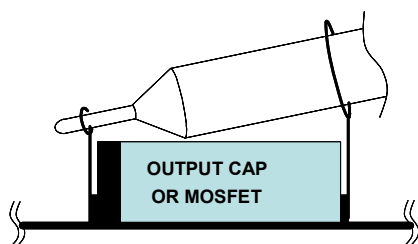

FIGURE 3. PROPER PROBE SET-UP TO MEASURE OUTPUT RIPPLE AND PHASE NODE RINGING
5. Use an oscilloscope to observe output voltage ripple and phase node ringing. For accurate measurement, please refer to Figure 3 for proper test set-up.